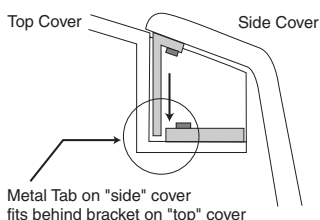

Figure A-2 Side and Top Cover Clasp
- 1.) To install a side cover, place it over the top cover and let the two (2) side cover latches slide behind the metal tabs, located on the top cover. See Figure A-2.